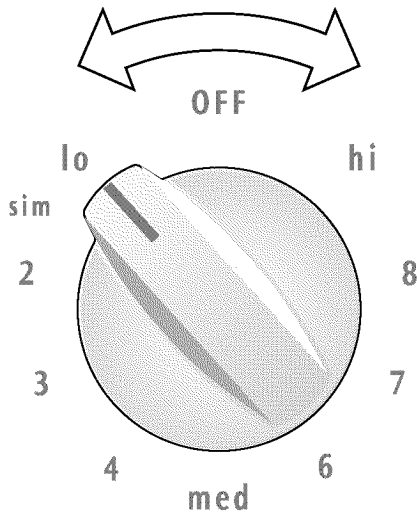

Figure 1
2. Push in and turn the surface control knob in either direction to the desired setting (See Figure 1). Start most cooking operations on a higher setting and then turn to a lower setting to finish cooking. The control knobs do not have to be set exactly on a particular setting. Use the settings as a guide and adjust the control knob as needed.
2. Push in and turn the surface control knob in either direction to the desired setting (See Figure 1). Start most cooking operations on a higher setting and then turn to a lower setting to finish cooking. The surface control knobs do not have to be set exactly on a particular mark. Use the marks as a guide and adjust the control knob as needed. Each surface element provides a constant amount of heat at each setting. A glowing red surface heating area extending beyond the bottom edge of the cookware indicates the cookware is **too small** for the surface heating area.